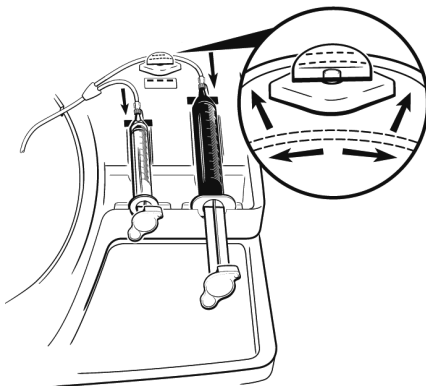

Figure 8. Stretch Syringe 2 tubing and slide into pinch valve.
27. Gently stretch the tubing attached to Syringe 2 and slide it completely into the pinch valve opening (see Figure 8).